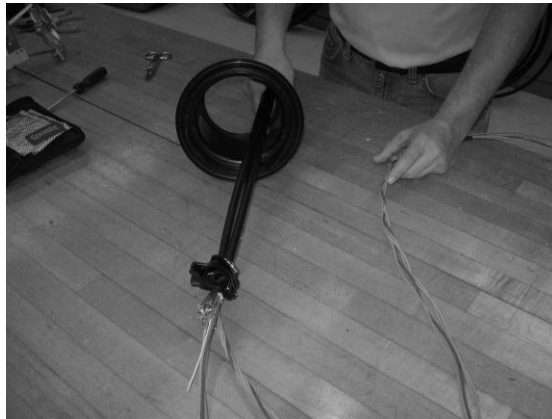

Figure 6 – Slide closure base over the ends of the cables.
4.10 Slide the closure base (small end first) over the ends of the cables and move it out of the way (Figure 6).